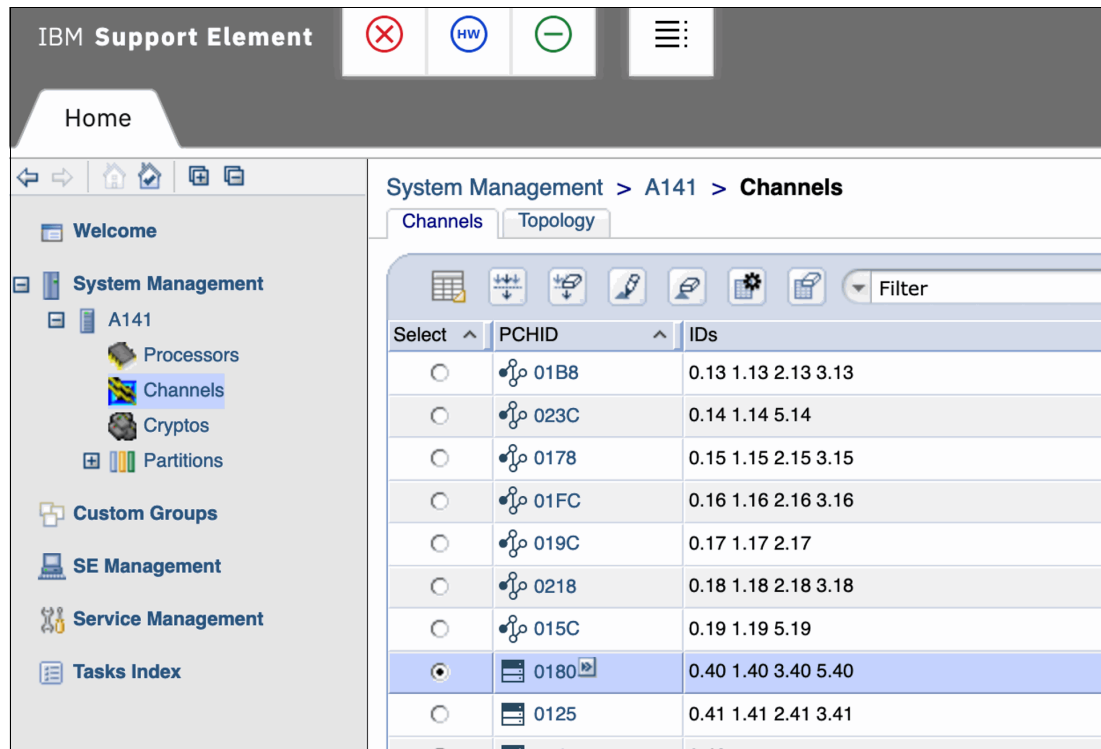

Figure 12 Channels view
3. In the System Management menu, navigate to the **CPC** menu and select the **Channels** view. Locate the channel ID for the FCP channel requiring NPIV activation for a specific LPAR and select it. This view is similar to the Adapters tab on the HMC for z15 and z16 systems (Figure 12).